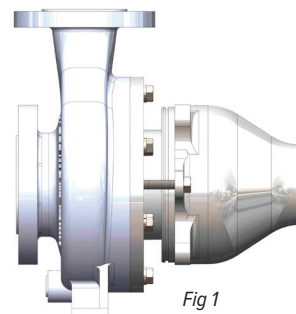

Fig 1
- ⚠ Magnetic Force Hazard.** This pump should only be disassembled and assembled using the recommended procedures. The magnetic attraction is powerful enough to rapidly pull the motor end and the wet end together. **ALWAYS** use the jackscrews (item 14) to assemble/disassemble the pump. Do not place fingers between the mating surfaces of the motor and wet ends to avoid injuries. Keep the drive magnet and impeller assembly away from metal chips or particles.
2. Using a 24 mm socket, unbolt the wet end (items 1-7) from the motor adapter by removing the (4) M16 hex head cap screws (item 15). Make sure the (2) jackscrews (item 14) are fully extended. Using a 24 mm socket turn the jackscrews clockwise until they are fully extended. See figure 1.